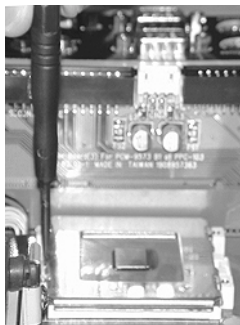

Figure 2.5: Push CPU in position
6. Gently levering at the CPU push cover by pushing the top end of the screwdriver away from the CPU (Figure 2-5, 2-6). After the CPU has been secured in the right position, remove the screw driver and the CPU push cover.